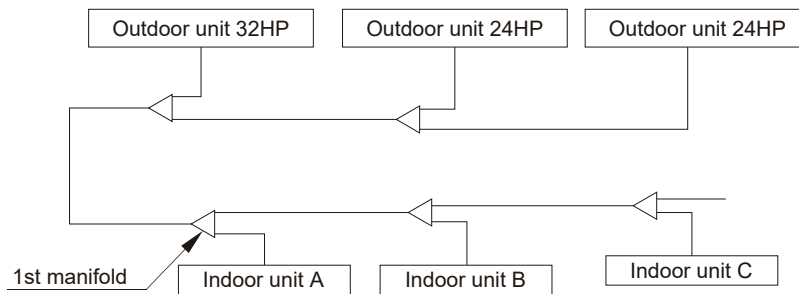

Fig. 3.10 Sequence of outdoor unit
- 1) The unit of 32HP is set at the 1st manifold (see Fig. 3.10).